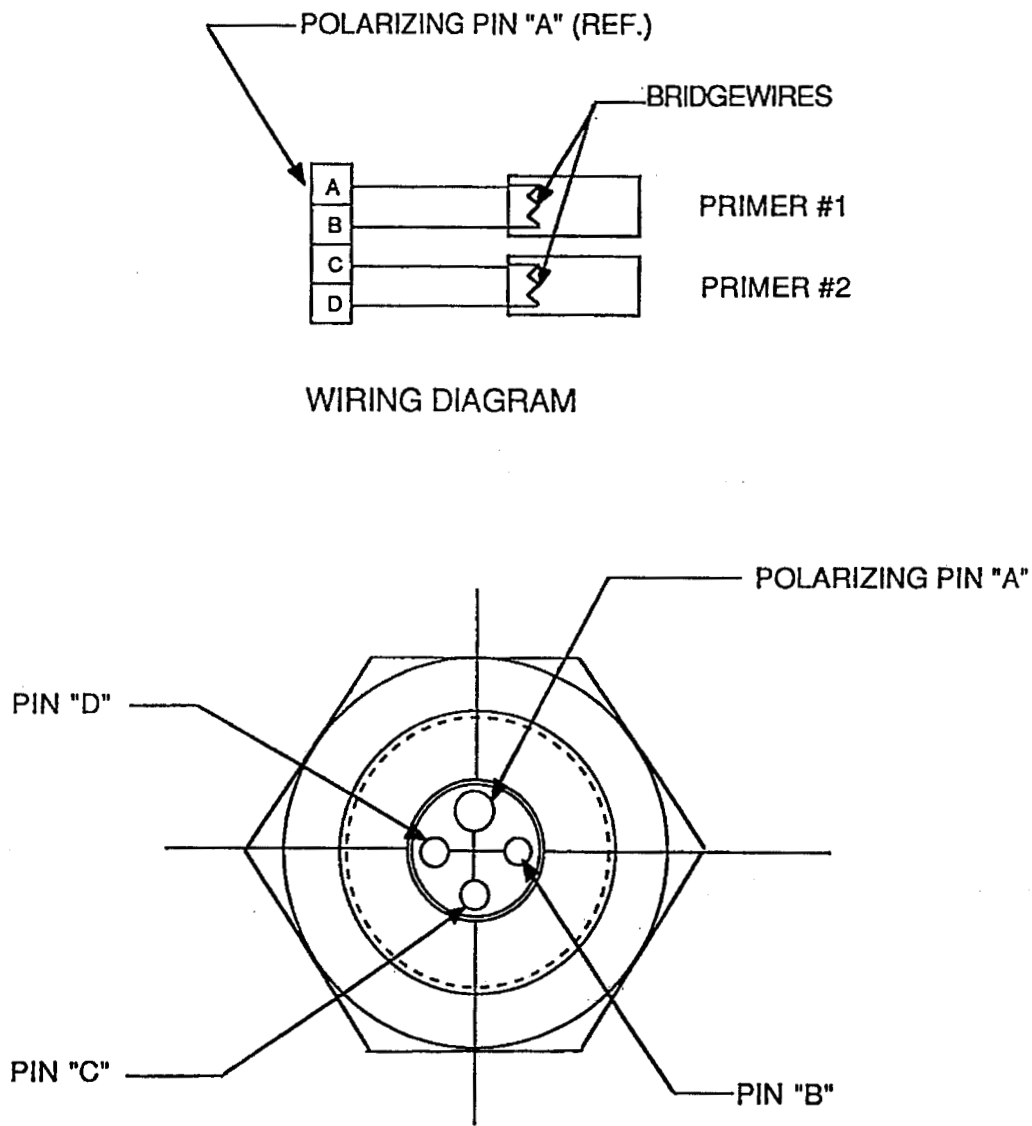

Figure 1
***Step 9: Determine the reactor water temperature for the existing reactor pressure using the saturation curve (figure 1 of Appendix C)**
Standard: Operator uses Appendix C Figure 1 to determine that Saturation temperature for 800# is 520°F.
SAT/UNSAT	<p>*Step 5: Clip one of the leads from the battery to Pin “A”.</p> <p>Standard: Jumper connected from battery terminal to Pin “A”; Pin “A” is the thicker pin (see Figure 1).</p>
Interim Cue: When the operator indicates he will clip one lead from the battery to Pin “A” (using Figure 1 if necessary), inform him that the lead is connected.
SAT/UNSAT	<p>*Step 6: Touch the other battery lead to Pin “B” (next clockwise terminal).</p> <p>Standard: Other lead from battery touched to Pin “B” (see Figure 1).</p>